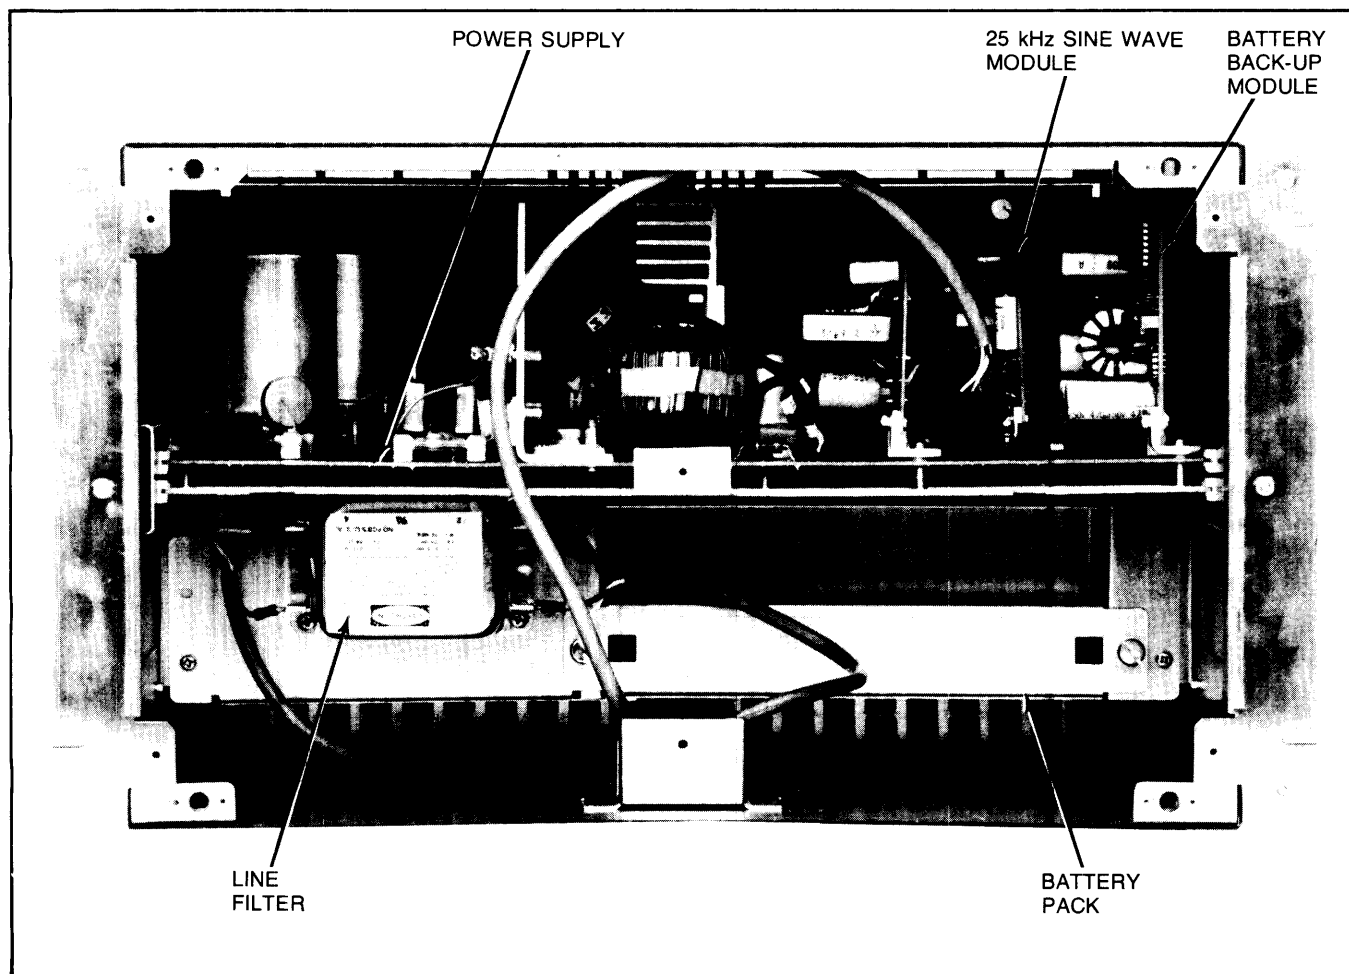

Figure 2-3. A700 Power Supply and Battery Pack Location Diagram
- Refer to Figure 2-1 and Figure 2-3.
- a. Refer to Figure 2-1 and Figure 2-3.
- a. Refer to Figure 2-1 and Figure 2-3. Set the BACKUP switch on the back panel to the DISABLE position.
- a. Refer to Figure 2-3.